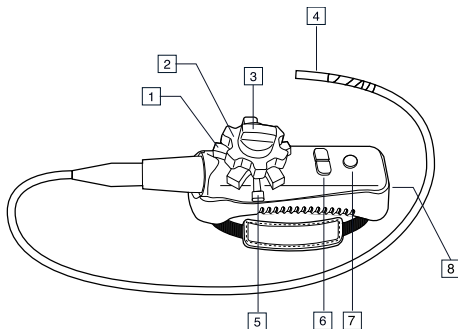
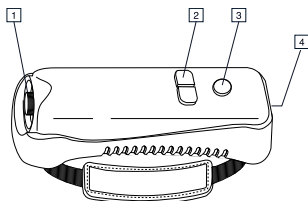

Figure 4.4 Articulating probe
Figure 4.5 Wireless transmitter
1. In wireless mode, use the light intensity buttons on the articulating probe (see Figure 4.4 *Articulating probe*, page 9) or wireless transmitter (see Figure 4.5 *Wireless transmitter*, page 10) to increase/decrease the light intensity.
Turn the articulation knobs to adjust the camera tip. The tension of an articulation knob is adjusted by turning the corresponding tension knob. Refer to Figure 4.4 *Articulating probe*, page 9.
Note Do not operate the articulation knobs (see Figure 4.4 *Articulating probe*, page 9) with the probe in a coiled configuration. This will damage the articulation controls.